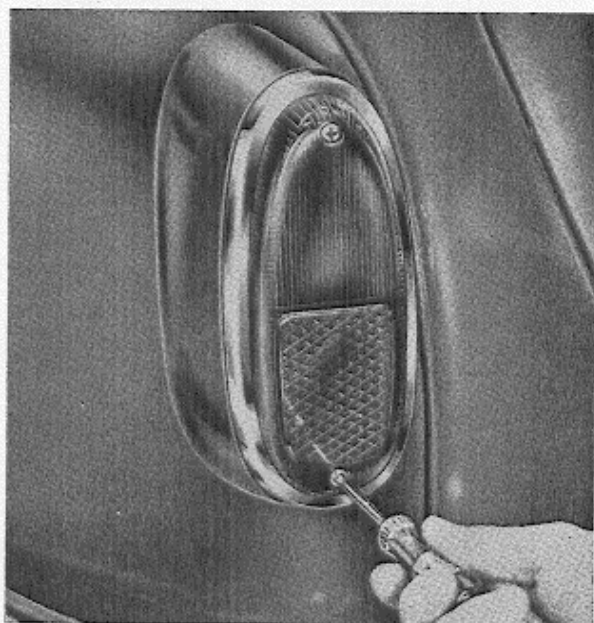

Fig. 73. Removing the glass.
1. Remove the glass as shown in Fig. 73.